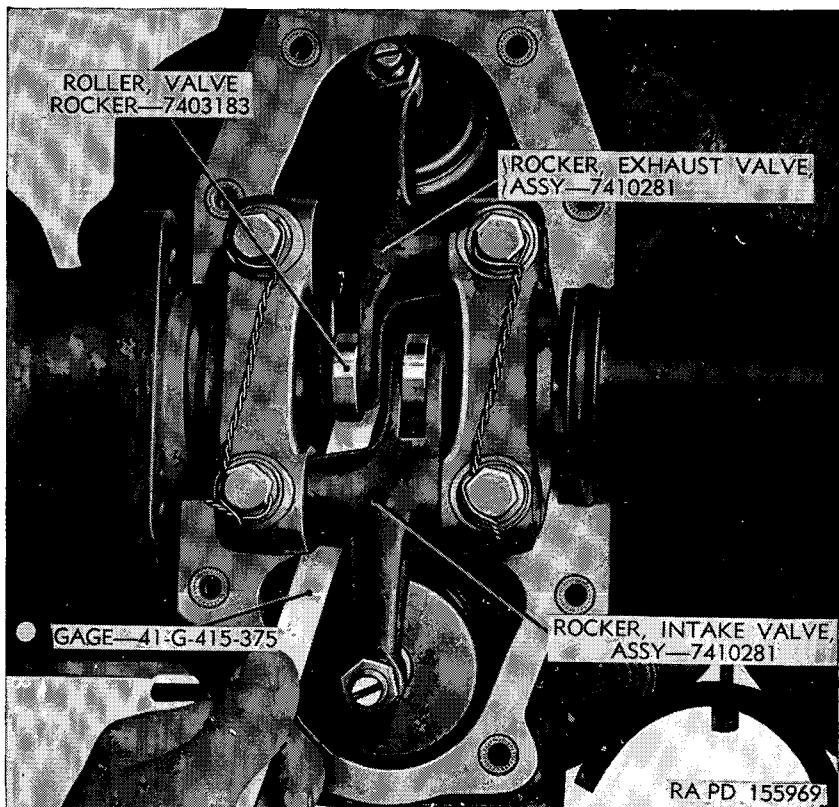
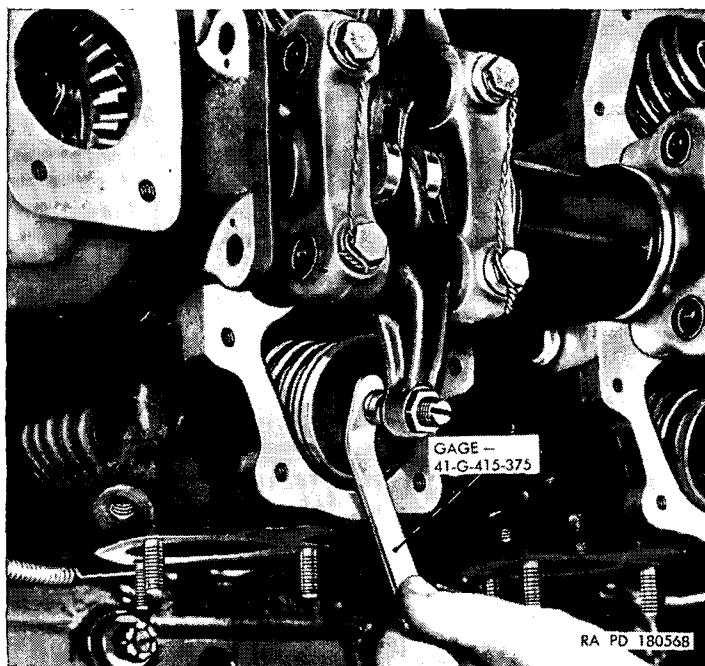

Figure 99. Setting exhaust valve rocker clearance.
Figure 101. Adjusting intake valve rocker clearance to 0.100 inch for engine timing.
*c.* Set valves. Set all intake valve rocker clearances, except No. 1 to 0.007 inch and secure the adjusting screw jam nuts. Set No. 1 intake valve rocker clearance to 0.100 inch (par. 109, fig. 101). Set exhaust valve rocker clearance with gage 41-G-415-375 (fig. 99) to 0.014 inch between the cam lobe and the valve rocker roller and secure with the adjusting screw jam nuts. It is necessary to set the exhaust valve clearance in this manner as the end of the valve is in its spring retainer recess and a feeler gage cannot be used at the valve.
(1) Set No. 1 cylinder intake valve clearance to 0.100 inch using gage 41-G-415-375 (fig. 101). Rotate the crankshaft clockwise, as viewed from the accessory end, with engine turning wrench 41-W-906-130 (fig. 7), until